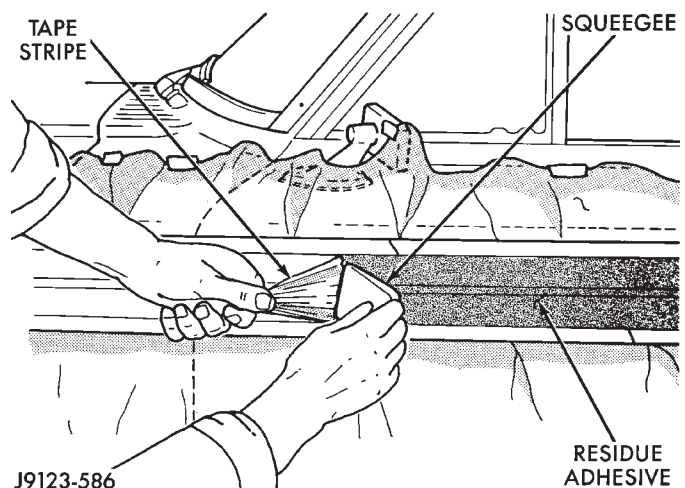

Fig. 63 Body Stripe/Decal Removal With A Squeegee
- if there is difficulty with peeling stripe/decal away from body use a squeegee for stripe/decal removal (Fig. 63); and